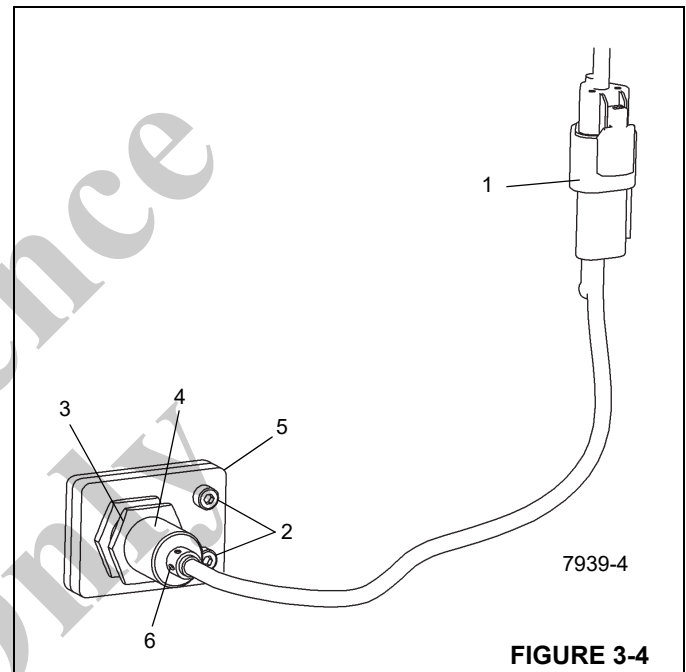

FIGURE 3-4
1. Disconnect electrical connector (1, Figure 3-4) at switch.
2. Remove the two screws (2, Figure 3-4) securing the mounting bracket/switch assembly to the stabilizer box.
3. Loosen jam nut (3, Figure 3-4) securing switch (4) to mounting bracket. Remove switch.
2. Thread switch (4, Figure 3-4) into mounting bracket (5) so that face of switch protrudes 10 mm through bracket.
3. Using two screws (2, Figure 3-4), secure mounting bracket/switch assembly to stabilizer box.
4. Tighten jam nut (3, Figure 3-4) on switch.
5. Connect electrical connector (1, Figure 3-4) to switch.
- With power on and stabilizer beam fully extended, ensure LED (6, Figure 3-4) on proximity switch illuminates; retract stabilizer beam and ensure LED is not illuminated.